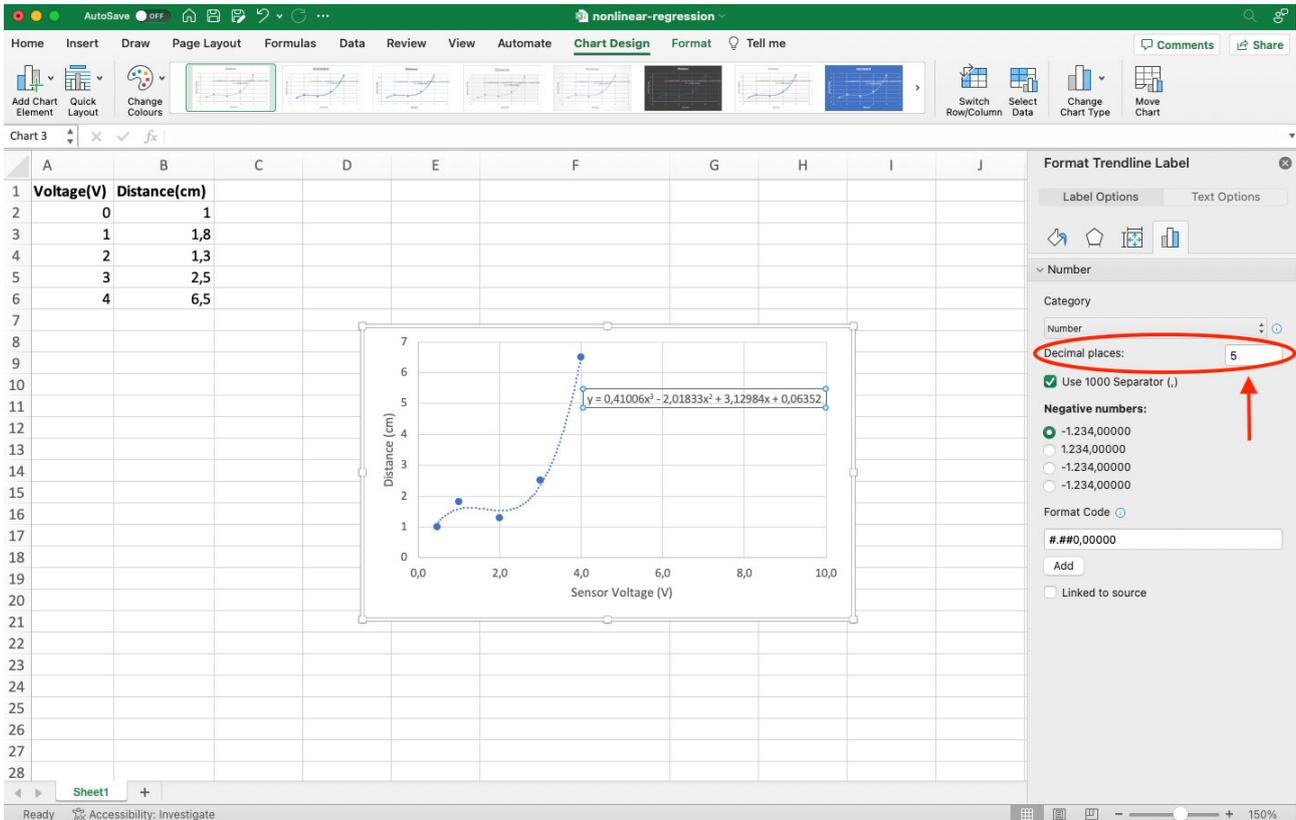

Figure 13: Set Decimal Places
- From the same option tab(*Format Trendline Label*), it is possible to setup the *Decimal Places* required, like presented in Figure 13.